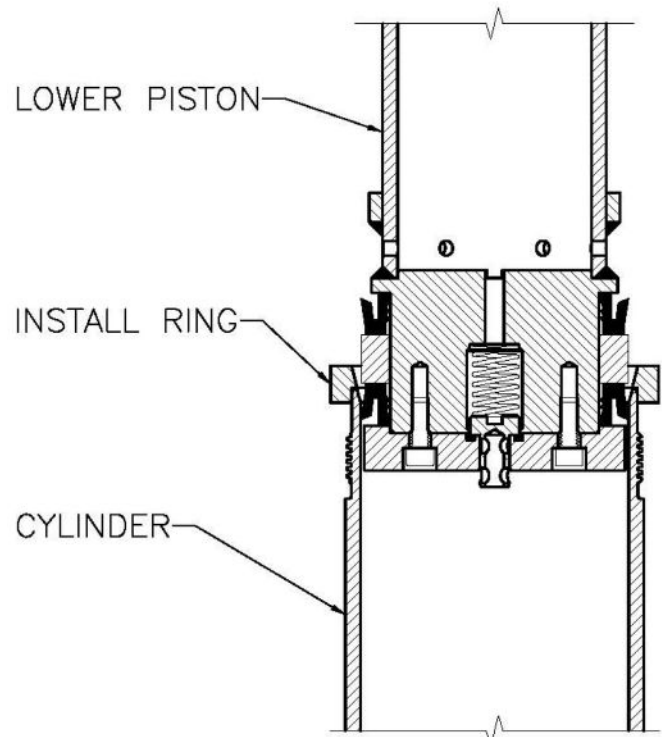

Figure 16: Internal head installation
bearing. Make sure the U-shape of the internal packing seals is pointing in the right direction (Figure 16).
- 9) Use the provided "install ring" to install the lower piston in the cylinder (Figure 16). Remove the install ring, and proceed with the rest of the installation.